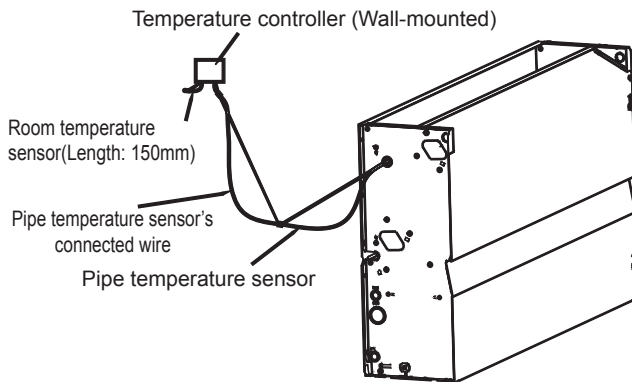

Fig.3-13
- **Outside temperature controller (Fig.3-13)**